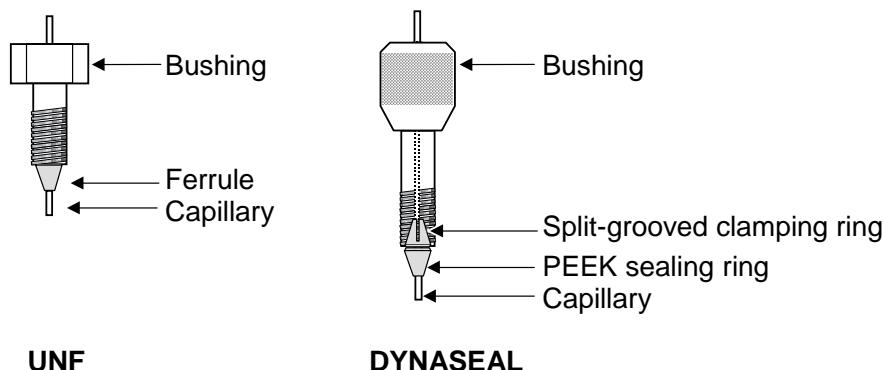

Fig. 1 Principle of the UNF and DYNASEAL connection systems
Fig. 1 shows a schematic diagram of the UNF and DYNASEAL connection system.
2. Push the bushing and the ferrule onto the capillary. Pay attention to the sequence and alignment of the fittings (see Fig. 1).